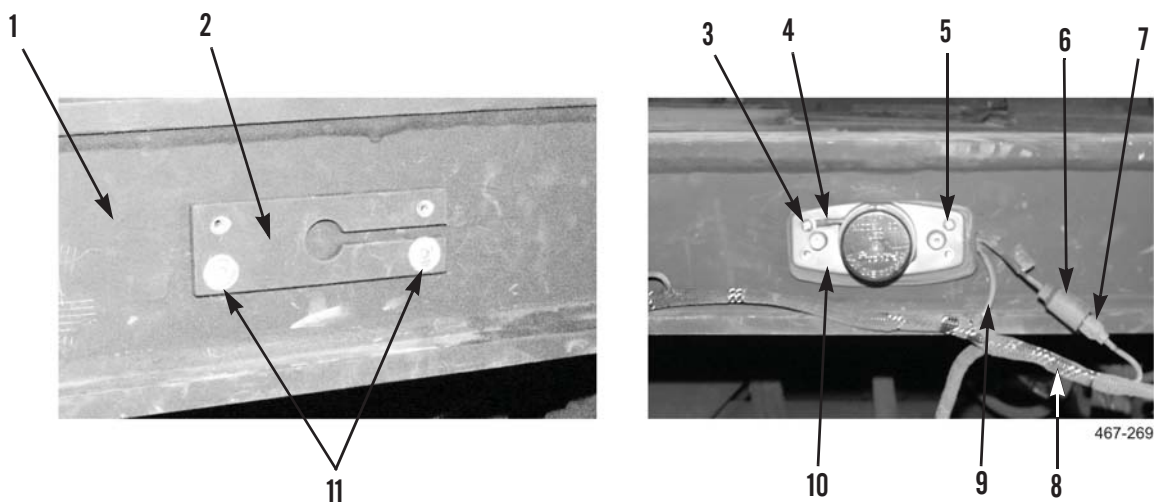

Figure 63. Slider Beam Light Installation.
17. At center of rear slider beam (Figure 63, Item 1), install mounting plate (Figure 63, Item 2), and two screws (Figure 63, Item 11) on slider beam.
18. Route light wire (Figure 63, Item 6) along slot on mounting plate (Figure 63, Item 2) while installing light.
19. Install light (Figure 63, Item 10), ground wire (Figure 63, Item 4), and screw (Figure 63, Item 3) on mounting plate (Figure 63, Item 2).
20. Install ground wire (Figure 63, Item 9) from vehicle wiring harness (Figure 63, Item 8), and screw (Figure 63, Item 5) on mounting plate (Figure 63, Item 2).
21. Connect light wire (Figure 63, Item 6) to vehicle wiring harness connector (Figure 63, Item 7).